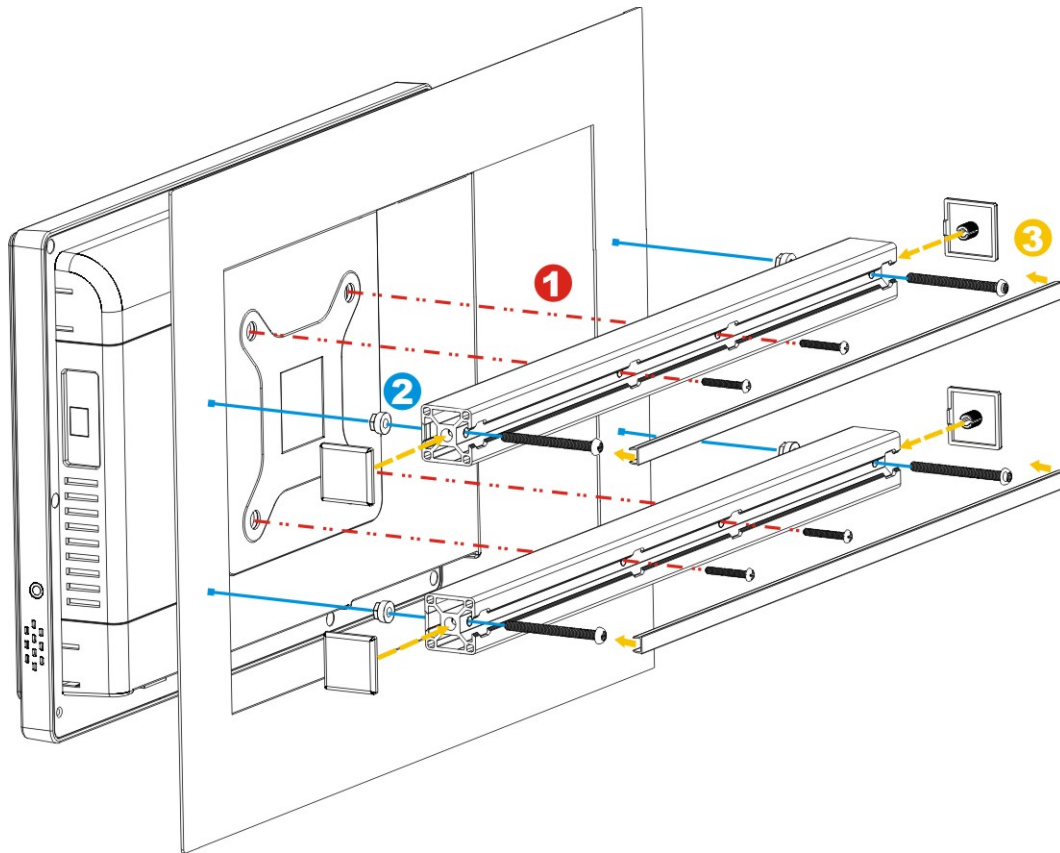

Figure 3-18: Tighten the Panel Mounting Clamp Screws
- Step 5:** Secure the two panel mounting brackets to the rear of the panel PC by inserting the four retention screws into the VESA mounting holes (**Figure 3-18 ①**).
- Step 6:** Insert the panel mounting clamps into the holes of the panel mounting brackets (**Figure 3-18 ②**). There are a total of 4 panel mounting clamps for AFL2-W15B-H61.
Step 8: Install the covers into the panel mounting bracket. Each mounting bracket includes two side covers and one top cover (**Figure 3-18 ③**).